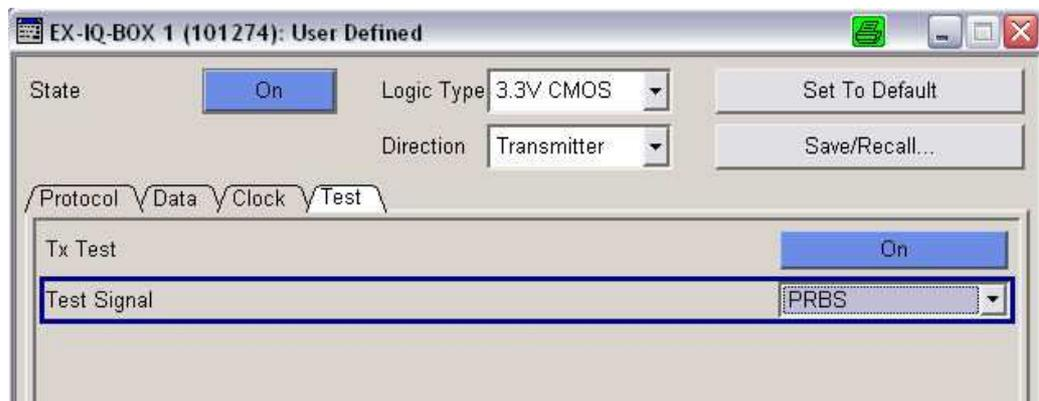

Figure 56: TX Test: Select the pattern and go
- ▶ In the *DigiConf* program's main window, set the direction to *Transmitter* and open the *Test* tab. The TX Test window appears (see Figure 56).